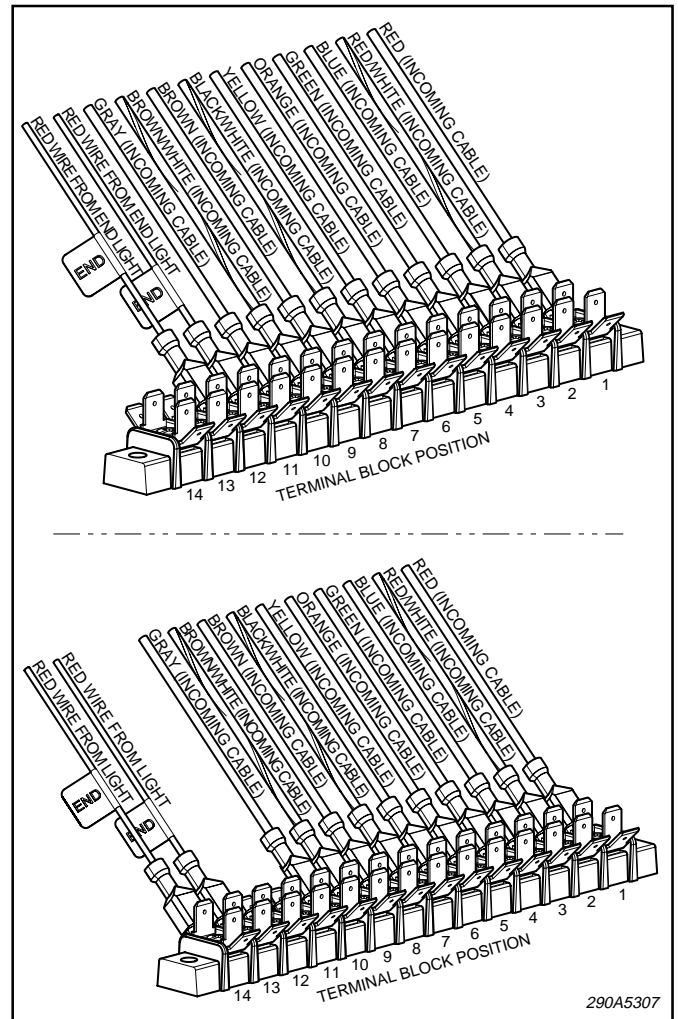

Figure 2.
C. The end light head assemblies are marked “END” and are connected in the eleventh and twelfth terminal block positions. See figure 2.